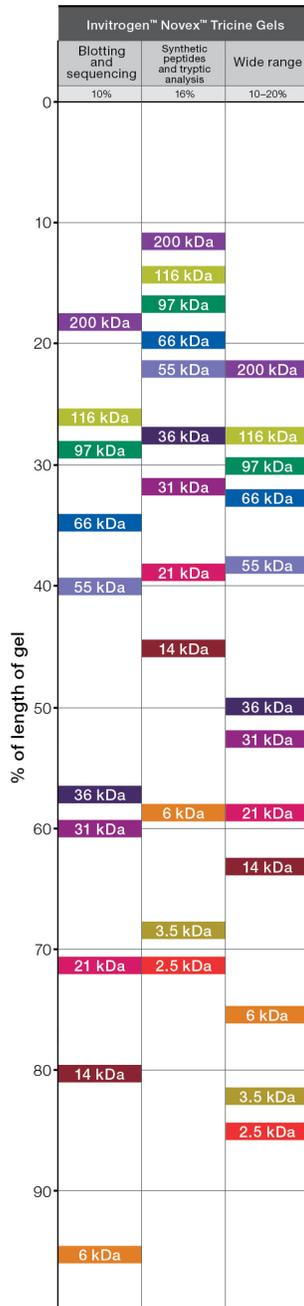

Figure 17. Novex Tricine gel migration chart. For optimal resolution, protein bands should migrate within the shaded areas.
- Increased resolution of proteins with molecular weights as low as 2 kDa (Figure 17)